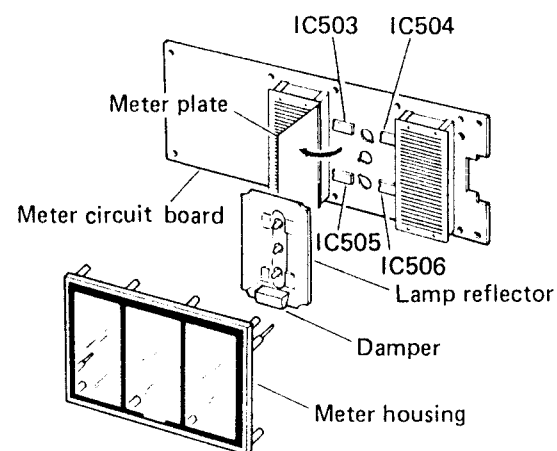

Fig. 7
- c. Detach one side of the adhesive tape which adheres the meter plate (It is difficult to set on just position if you detach the both left and right sides.), and open the meter plate as shown in Fig. 7.